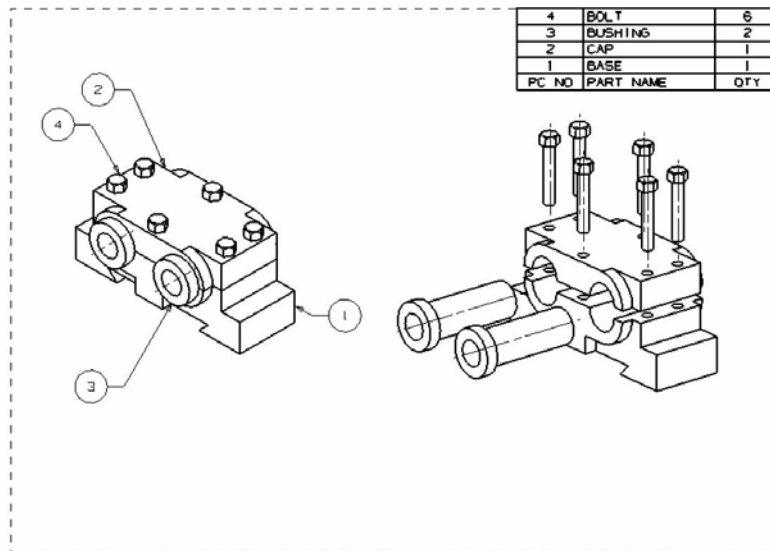

Figure 12-60 The drawing sheet after generating the drawing view, parts list, and auto balloons for the assembly
- d. Create the parts list and auto balloons, refer to Figure 12-60.
2. Position the parts list by pressing the left mouse button in the drawing sheet at the location shown in Figure 12-60.
balloons along with the drawing views, and the parts list is shown in Figure 12-60.